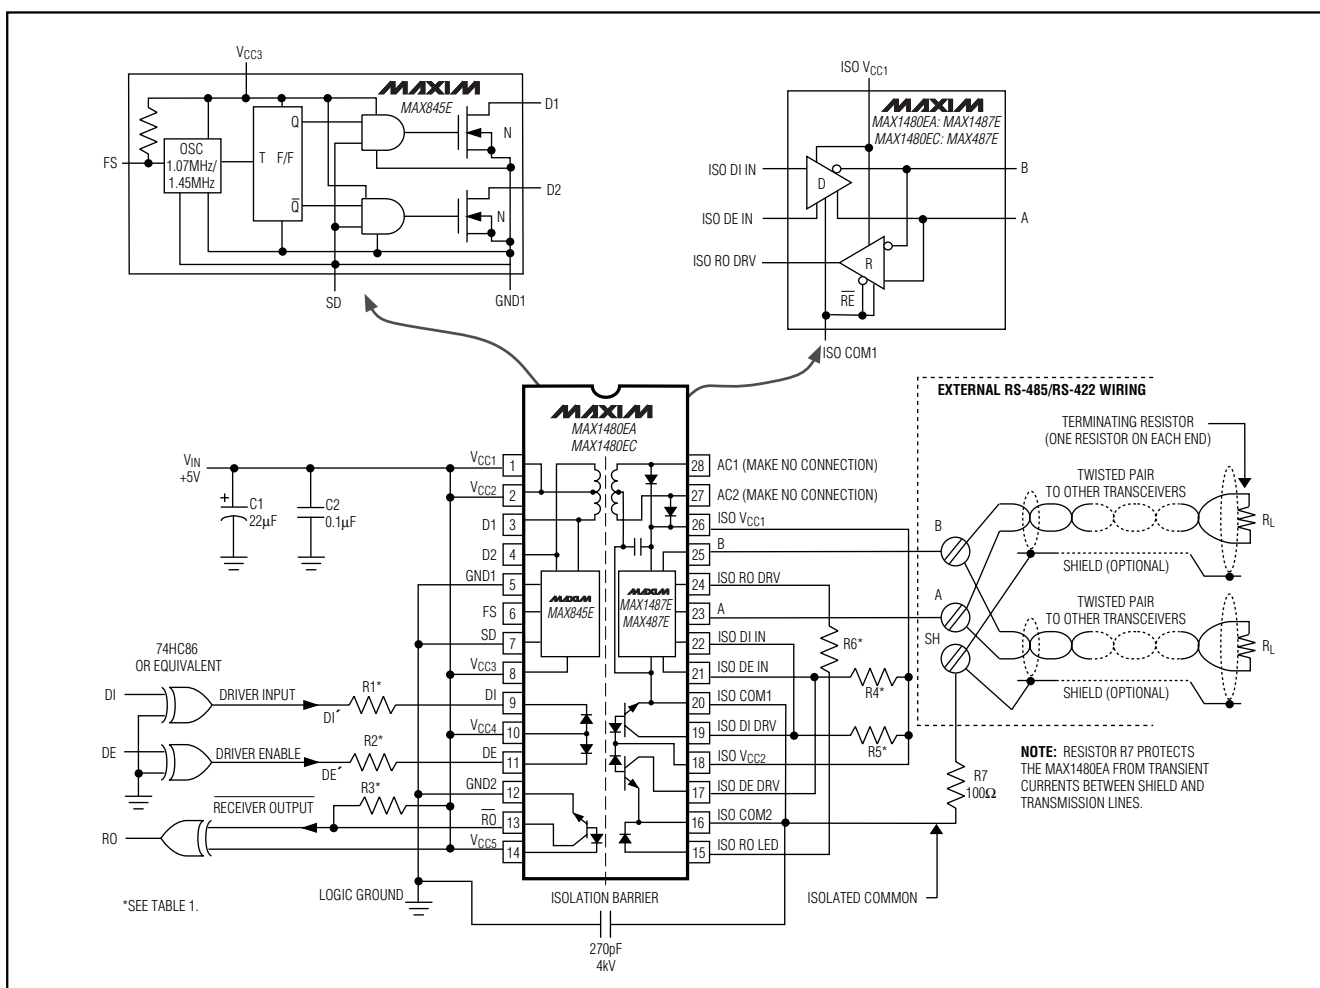

Figure 1. MAX1480EA/MAX1480EC Detailed Block Diagram and Application Circuit
Note 2: For DE⁺ and DI⁺ pin descriptions, see *Detailed Block Diagram and Typical Application Circuit* (Figure 1 for MAX1480EA/MAX1480EC, Figure 2 for MAX1490EA/MAX1490EB).
($V_{CC-} = +5\text{V}$, $V_{FS} = V_{CC-}$, Figures 1 and 2, $T_A = +25^\circ\text{C}$, unless otherwise noted.)
($V_{CC-} = +5V$, $V_{FS} = V_{CC-}$, Figures 1 and 2, $T_A = +25^\circ C$, unless otherwise noted.)
($V_{CC-} = +5V$, $V_{FS} = V_{CC-}$, $V_{DI} = 0$, DE toggled 0 to 5V at 5kHz, Figures 1 and 2, $T_A = +25^{\circ}C$, unless otherwise noted.)
Note: For DE⁺ and DI⁺ pin descriptions, see Detailed Block Diagram and Typical Application Circuit (Figure 1 for MAX1480EA/MAX1480EC, Figure 2 for MAX1490EA/MAX1490EB).
The MAX1480EA/MAX1480EC/MAX1490EA/MAX1490EB are complete, electrically isolated, RS-485/RS-422 data-communications interface solutions. Transceivers, optocouplers, a power driver, and a transformer in one standard 28-pin DIP package (24-pin package for the MAX1490EA/MAX1490EB) provide a complete interface. Signals and power are internally transported across the isolation barrier (Figures 1, 2). Power is transferred from the logic side (nonisolated side) to the isolated side of the barrier through a center-tapped transformer. Signals cross the barrier through high-speed optocouplers. A single +5V supply on the logic side powers both sides of the interface. The MAX1480EA/MAX1480EC offer half-duplex communications while the MAX1490EA/MAX1490EB feature full-duplex communication. The functional input/output relationships are shown in Tables 3 through 6.
Table 1. Pullup and LED Drive Resistors for Figure 1
* For DE[′] and DI[′] pin descriptions, see Detailed Block Diagram and Typical Application Circuit (Figure 1 for MAX1480EA/MAX1480EC, Figure 2 for MAX1490EA/MAX1490EB).
The ±15kV ESD test specifications apply only to the A, B, Y, and Z I/O pins. The test surge may be referenced to either the ISO COM or to the nonisolated GND (Figures 1 and 2).